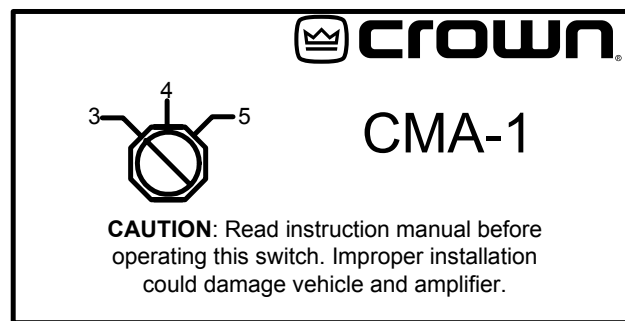

Fig. 10 Switch Position for 3 CH Operation
2. Set the amplifier switch to 3 CH as in **Figure 10**. This provides the following output powers: